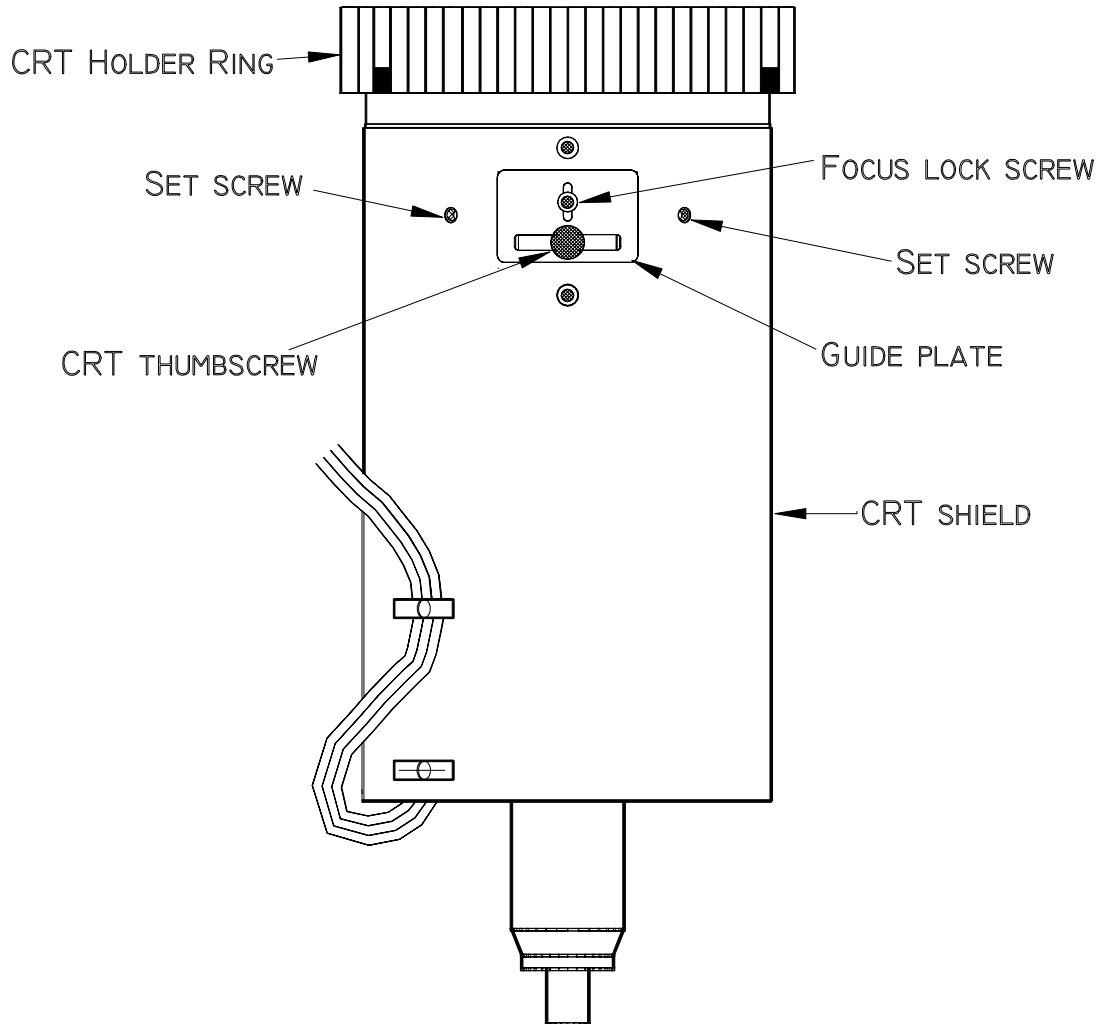

Figure 3-10. CRT Mechanical Focus adjustments.
9. Put on safety gloves (see Safety section for gloves type) then loosen the wing nut on the Green Relay Lens (or whichever lens is being focused). **NOTE:** If the **ILA®**/Relay Lens/CRT assembly cannot be moved close enough to get a good spacer ball focus, loosen the CRT Lens Stopper Ring in front of the CRT Holder Ring (Figure 3-10). Move the CRT snug against the collar to get additional range, and then, retighten the collar.
7. Put on safety gloves (see Safety section for gloves type) then loosen the wing nut on the Green Relay Lens (or whichever lens is being focused). **NOTE:** If the **ILA®**/Relay Lens/CRT assembly cannot be moved close enough to get a good spacer ball focus, loosen the CRT Lens Stopper Ring in front of the CRT Holder Ring (Figure 3-10). Move the CRT snug against the collar to get additional range, then retighten the collar.
NOTE: The CRT Mechanical Focus procedure (Section 3.4) is often performed sequentially with the CRT Rotation procedure (Section 3.5). The same two set screws (Figure 3-10) are loosened when doing either of these procedures. When performing the procedures in sequence, ensure the two set screws are secured when either the focus lock screw or the CRT thumbscrew is tightened after finishing each adjustment. **Do not** leave the set screws loose when securing either the focus lock screw or the CRT thumbscrew. **Adjusting either of these while the set screws are loose** may cause the CRT to go out of focus or rotate.
5. Loosen the two set screws (Figure 3-10) near the top of the CRT sleeve.
6. Loosen the CRT focus lock screw located on the Guide Plate at the top of the CRT shield (Figure 3-10). The CRT is now free to slide.
7. Grasp the CRT thumbscrew (Figure 3-10) and slide the CRT back and forth until the image is focused as sharply as possible (be careful not to loosen the CRT thumbscrew which could cause the CRT to rotate).
5. Loosen the 2 set screws (Figure 3-10) near the top of the CRT sleeve.
6. Loosen the CRT Thumbscrew (Figure 3-10) on the top of the CRT Assembly.